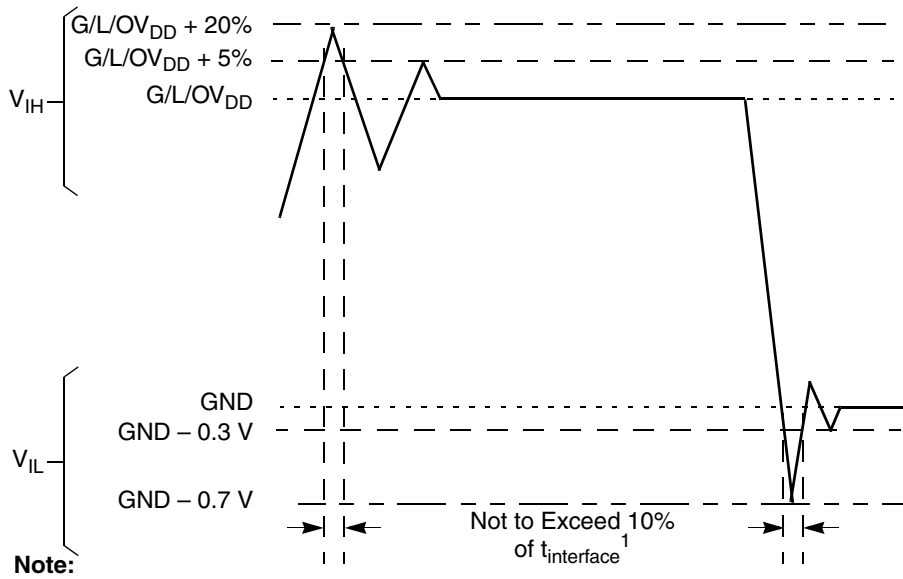

Figure 42. Overshoot/Undershoot Voltage for $GV_{DD}/OV_{DD}/LV_{DD}$
- (M,L,O)V_{IN} and MV_{REF} may overshoot/undershoot to a voltage and for a maximum duration as shown in Figure 42.
Figure 42 shows the overshoot and undershoot voltages at the interfaces of the MPC8347E.